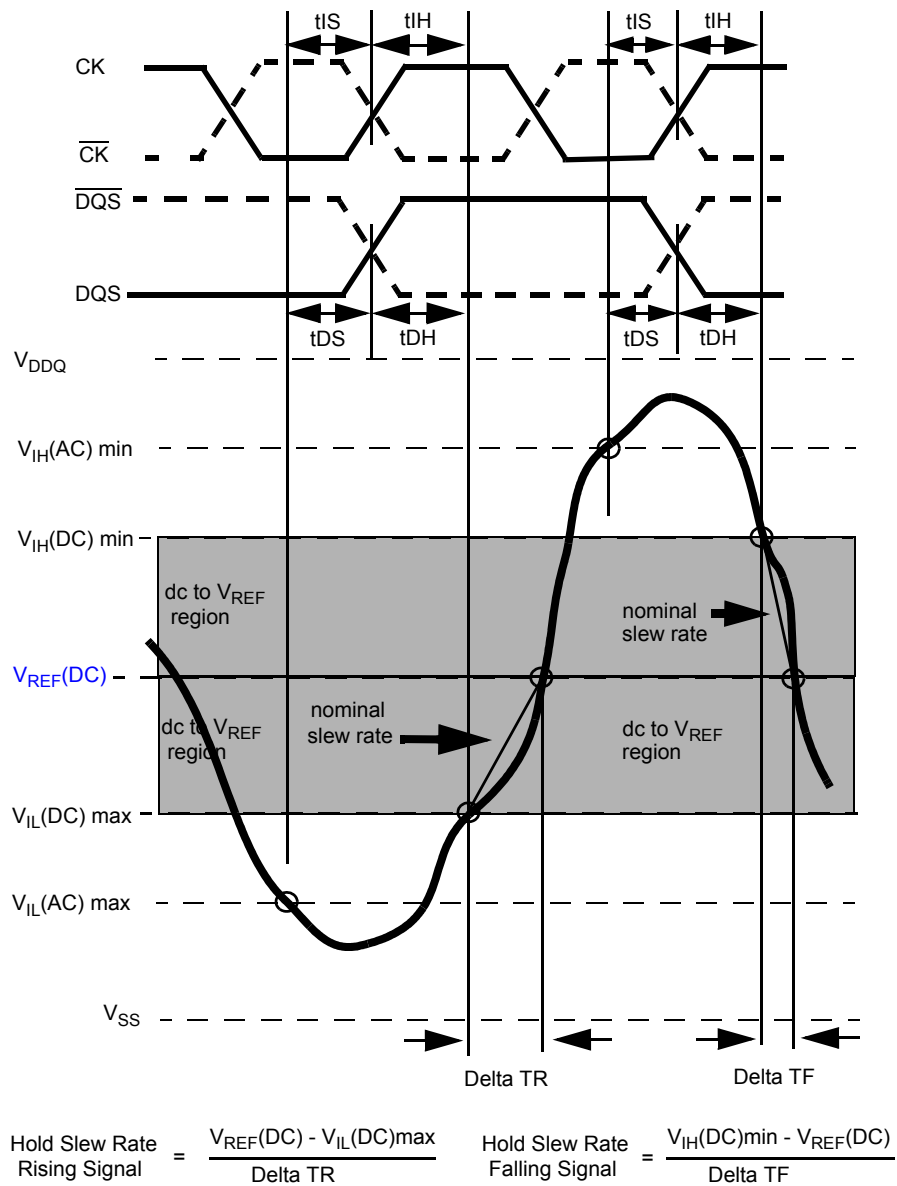
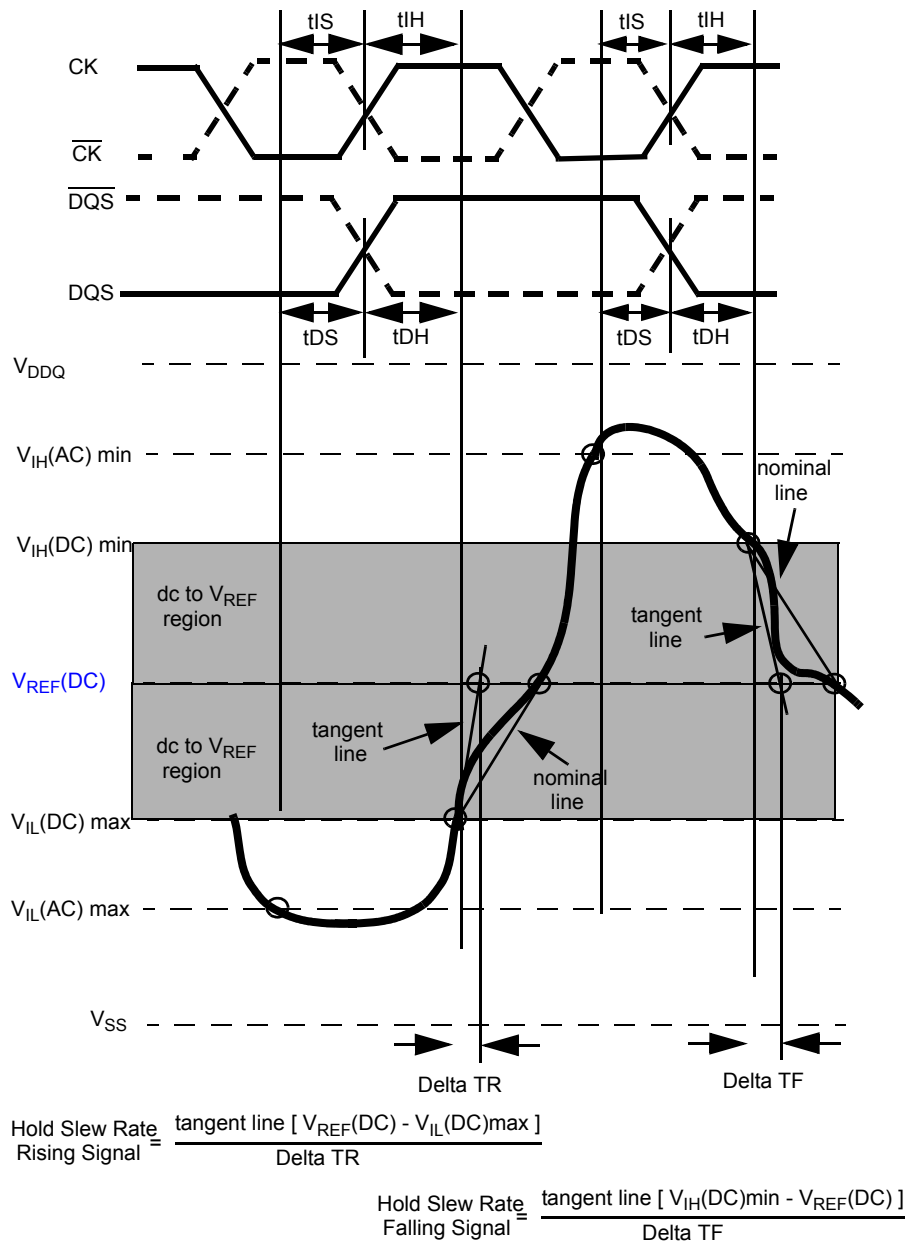

Figure 26 - Illustration of nominal slew rate for hold time tDH (for DQ with respect to strobe) and tIH (for ADD/CMD with respect to clock).
Figure 28 - Illustration of tangent line for hold time t_{DH} (for DQ with respect to strobe) and t_{IH} (for ADD/CMD with respect to clock)
Hold (tDH) nominal slew rate for a rising signal is defined as the slew rate between the last crossing of VIL(DC)max and the first crossing of VREF(DC). Hold (tDH) nominal slew rate for a falling signal is defined as the slew rate between the last crossing of VIH(DC)min and the first crossing of VREF(DC) (see Figure 26). If the actual signal is always later than the nominal slew rate line between shaded 'dc level to VREF(DC) region', use nominal slew rate for derating value. If the actual signal is earlier than the nominal slew rate line anywhere between shaded 'dc to VREF(DC) region', the slew rate of a tangent line to the actual signal from the dc level to VREF(DC) level is used for derating value (see Figure 28).